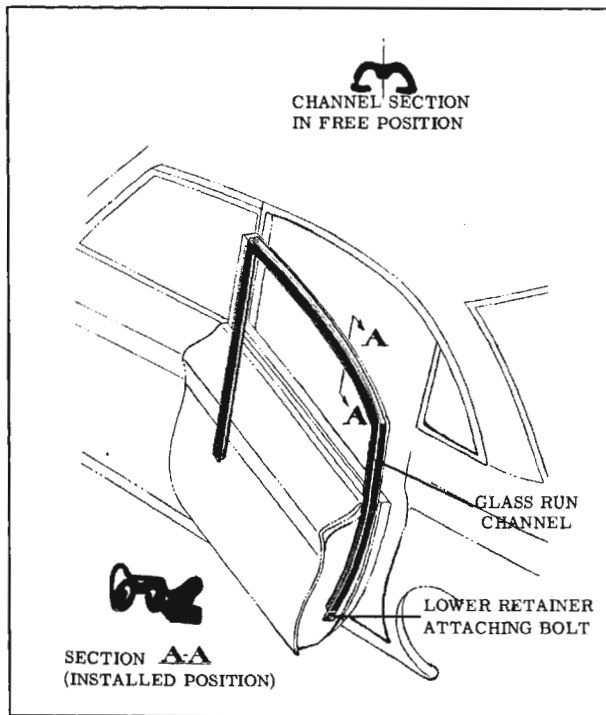

Fig. 16-261 Rear Door Window Glass Run Channel Assembly
3. With finger pressure, squeeze run channel together at rear end and gently pull run channel out of rear door upper frame. (Fig. 16-261)